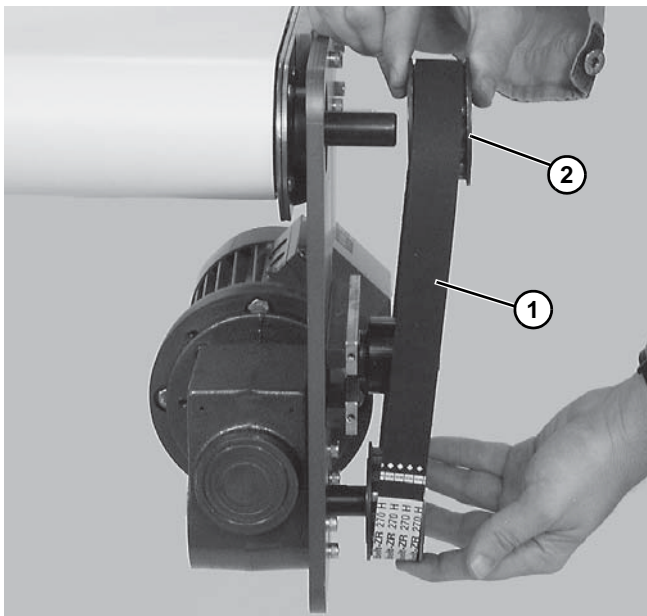

Figure 14
3. Remove timing belt (Figure 14, item 1).
If timing belt does not slide over pulley flange, loosen driven pulley taper-lock screws (Figure 14, item 2) and remove pulley with belt (Figure 14, item 1). For re-installation, see steps 7 thru 9 beginning on page 10.